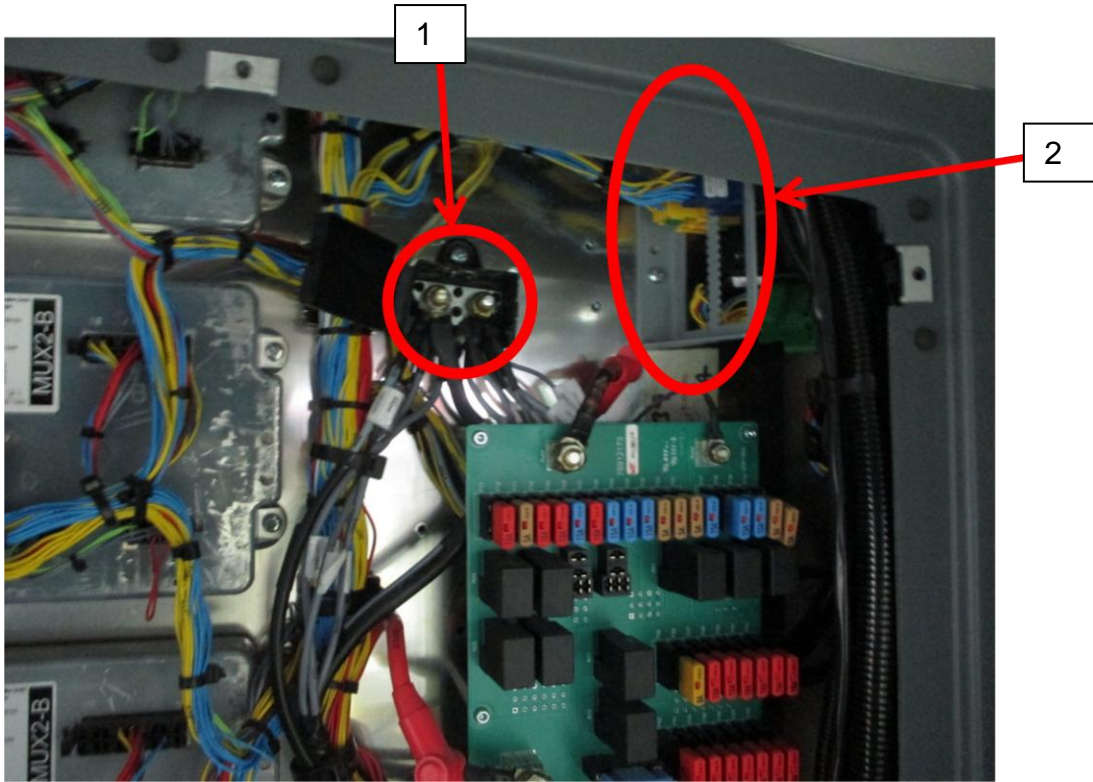

Figure 2: Connection points.
- a. From Branch Knot Connector, unhook grounds GND4A, GND4F, and GND1E. Refer to Figure 2 item 1.
- b. From JPT Connector Frame, unhook JPT Connectors, CFT1, CFT2, CFT3, CFT4, and CRF1, CRF2, CRF3, CRF4. Refer to Figure 2 item 2.